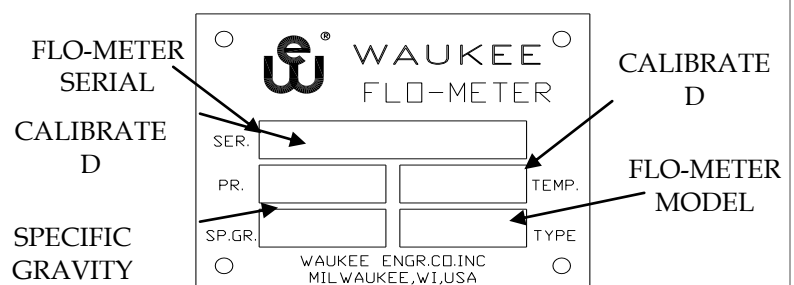

Figure 8
- Are the Pressure, Temperature and Specific Gravity (Gas Type) being used the same as what the Flo-Meter is calibrated for? This information can be found on the Serial Plate located on the front of the Flo-Meter. (See Figure 8) Pressure is very critical to the accuracy of the Flo-Meter, for every 1psi (6.9kPa) from calibrated pressure will result in about a 3% inaccuracy in reading. The temperature will also have a slight effect on the accuracy of the Flo-Meter, for every 10° of deviation from the calibrated temperature will result in about a 1% inaccuracy. Using a different gas type then what the Flo-Meter was calibrated for may result in huge inaccuracies, depending on what the Flo-Meter is calibrated for and what gas type is currently flowing through the Flo-Meter. If any of these values deviate from what the Flo-Meter is calibrated for, you can use a correction factor to find out the actual flow rate for a given indicated flow rate. Use the Correction factor formula located in this manual.